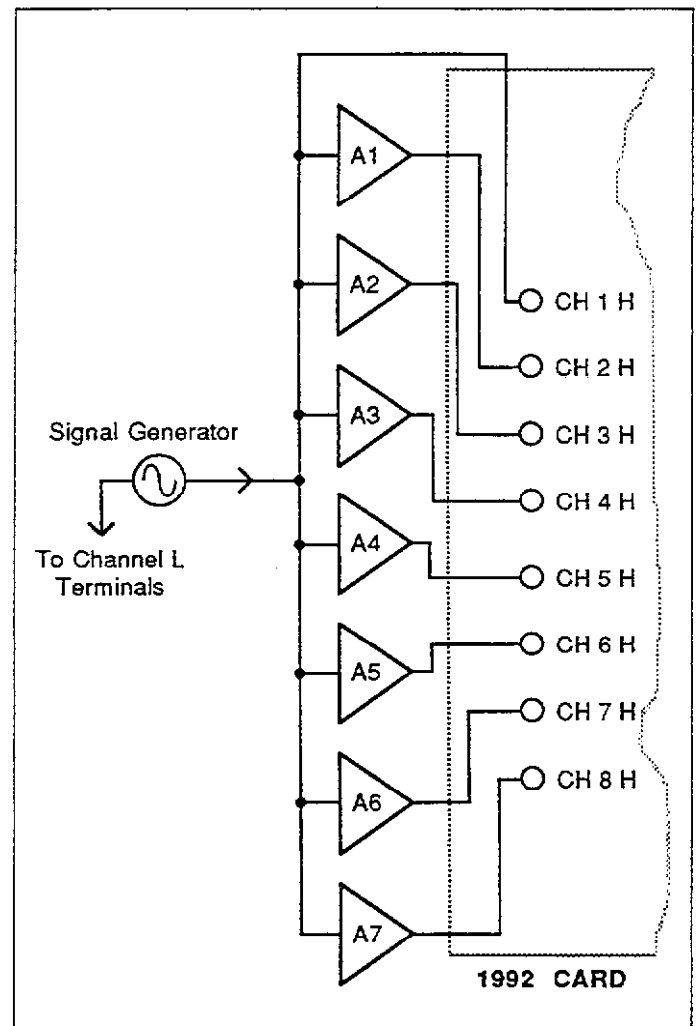
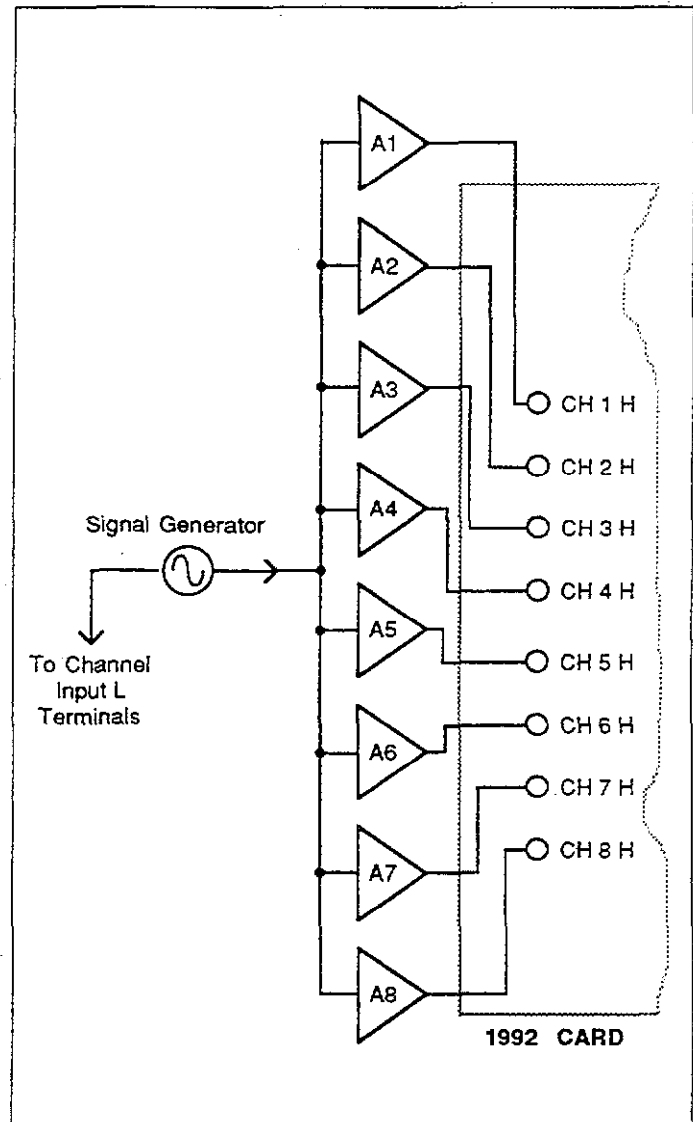

Figure 2-15. Amplifier Gain Test Configuration
Figure 2-16. Amplifier Frequency Response Test Configuration
The ratio mode used in conjunction with the scanner can be used to determine the gain of seven different amplifier, using the test configuration shown in Figure 2-15. A signal generator is also necessary to supply the test signal to the inputs of the amplifiers, which are also connected to the channel 1 input of the scanner. Note that the outputs of the amplifiers are connected to the channels 2 through 8 inputs of the scanner. Because the maximum ratio the Model 199 can display is 10, amplifier gains are limited to that value. For higher gains, the values must be computed manually.
1. Connect the equipment together, as shown in Figure 2-15.
The test configuration discussed above can be modified somewhat to determine the bandwidth of eight amplifiers connected to the channel inputs. The equipment configuration for this test is shown in Figure 2-16. This test setup is similar to that shown in Figure 2-15.